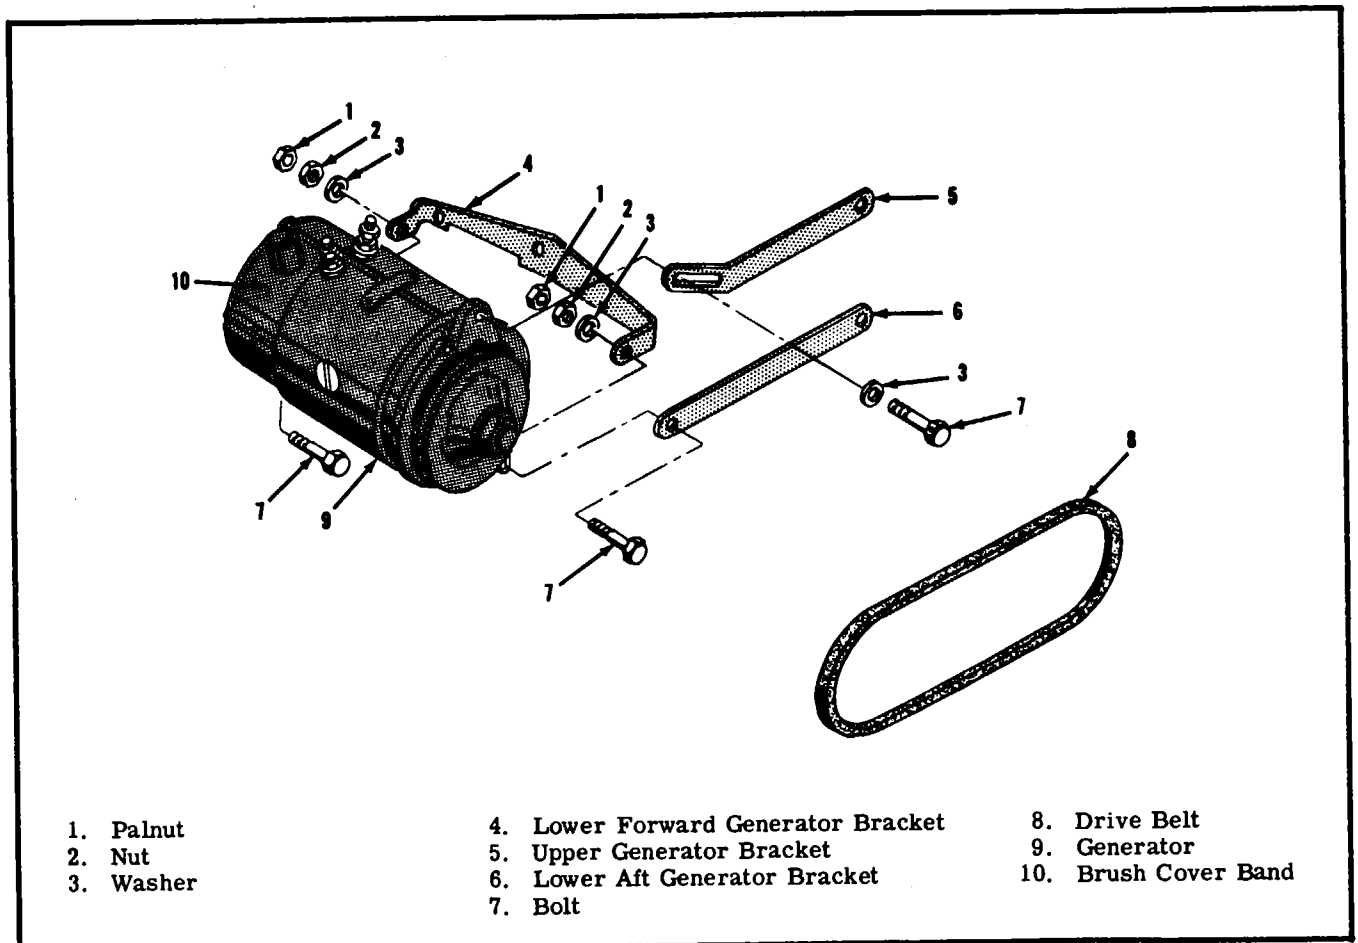

Figure 17-6. Generator Installation - Models 180, 182 and 185
**17-27. REMOVAL AND REPLACEMENT OF GENERATOR - MODELS 180, 182 & 185 (See figure 17-6.)**